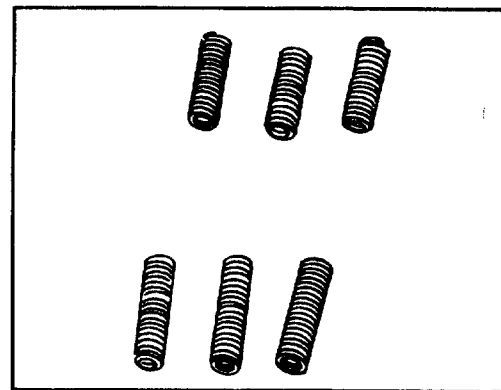

FIGURE 14.
15. Inspect the springs (14), for bent or distorted coils. If a spring is broken or deformed, all six springs in the unit must be replaced. See figure 14.